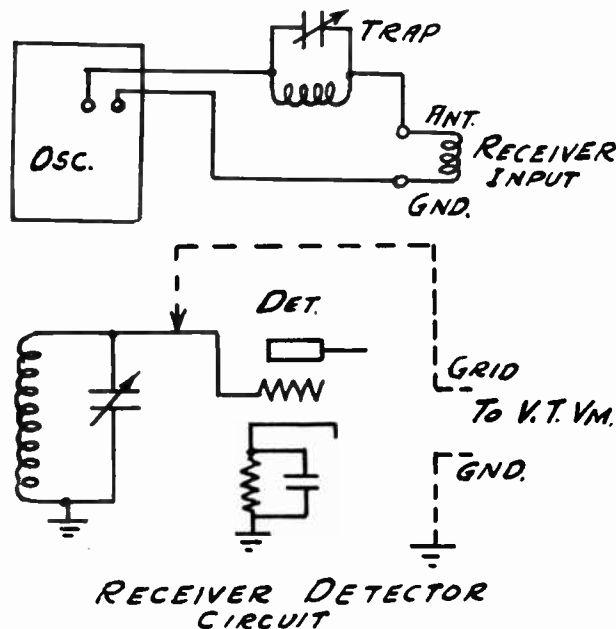

Figure 28
5.33—If it is convenient to get at the coils in the tuned r.f. receiver, the trap circuit can be adjusted by placing it directly in the field of the receiver coil. To make sure that the efficiency of the trap circuit is good, the trap should be tested for continuity at other frequencies. To do this the trap should be connected as shown in Figure 28, in series with the test oscillator and with the receiver and oscillator tuned to a frequency other than that to which the trap is adjusted, a reading should be obtained on the vacuum tube voltmeter. If no reading or a very low reading is obtained, it is obvious that the trap circuit will not pass to a great extent, frequencies on each side of the resonant point. This can be corrected by using a smaller coil and a larger condenser.